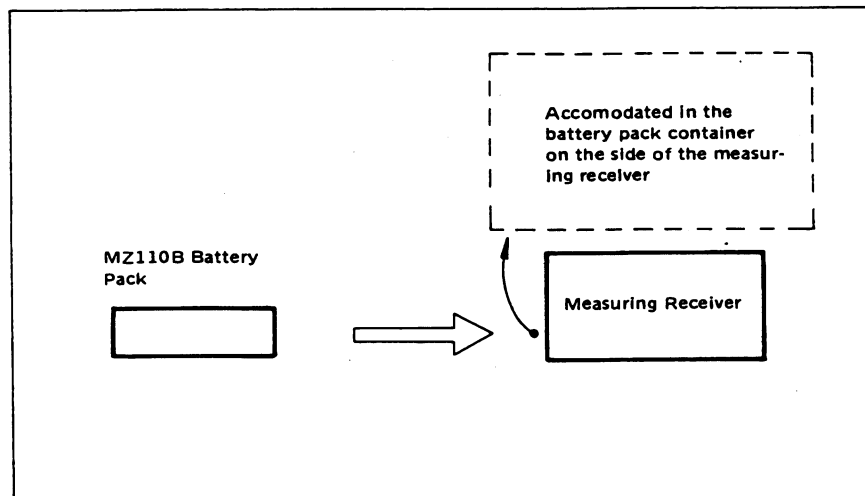

Fig. 3-2 Use of Ni-Cd Battery
- (2) Rechargeable: Insert the MZ110B Battery Pack (Ni-Cd battery, 1.2 V x 6, optional accessory) into the instrument. (Fig. 3-2).